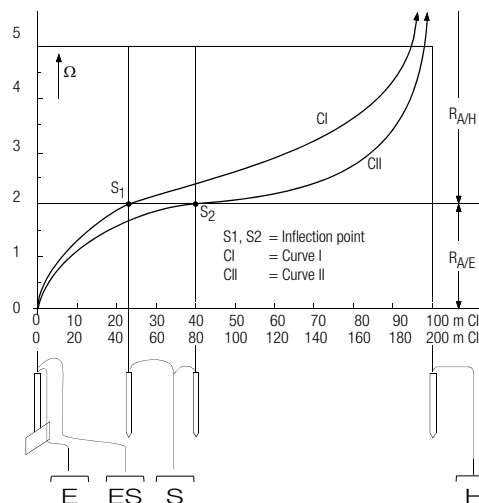

Figure 6 Measuring Earthing Resistance at a Large Earthing System
If this is the case, proceed as shown in Figure 6 on page 21.
- Measured resistance values are subsequently displayed as a table, and then as a graphic representation (curve I in Figure 6 on page 21).
If the characteristic resistance curve does not include a well defined horizontal section, measurement should also be performed after changing the position of the auxiliary earth electrode. The new characteristic resistance curve must then be entered to the first diagram and the abscissa scale must be changed such that both auxiliary earth electrode positions are identical. The originally determined dissemination resistance value can be double-checked with deflection point S2 (see also Figure 6 on page 21).